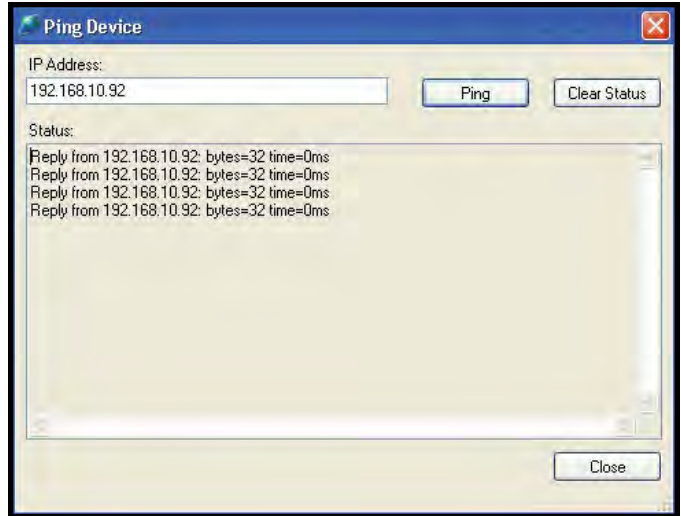

Figure 11. Ping Device window
2. If the Ping is successful the “Ping Device” window will display four “Reply from” messages (see Figure 11). If you do not receive these four messages, proper communication was not established. Make sure that the Ethernet Board is correctly connected to your network and that the IP address is valid within the network. Click the “Close” button and exit DeviceInstaller. Continue to the “CONFIGURING THE SETTINGS FROM THE WEB BROWSER” procedure.